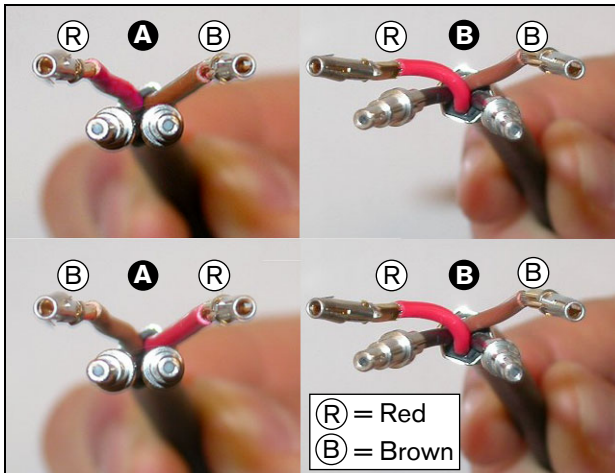

figure 22.31: Positioning the copper wires and fibers
- 26 Check if the copper wires and the plastic optical fibers have been positioned in the correct way (see figure 22.31).